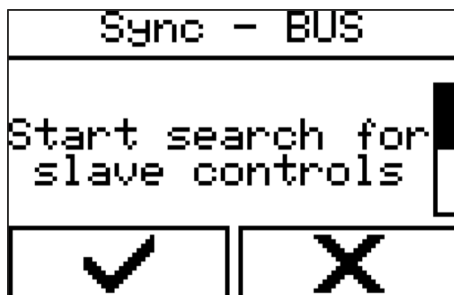

Fig. 113: Selecting a menu
1. → Call up the menu via 'Control' → 'Sync-BUS settings' → 'Start search for slave controls' (Fig. 113).